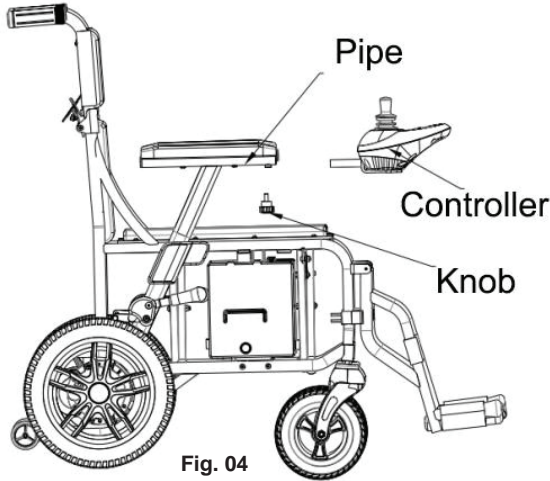

Fig. 04
- a. Insert one end of the telescopic pipe of the controller into the controller fixing pipe at the lower of the right armrest pipe of the wheelchair (**Fig.04**).